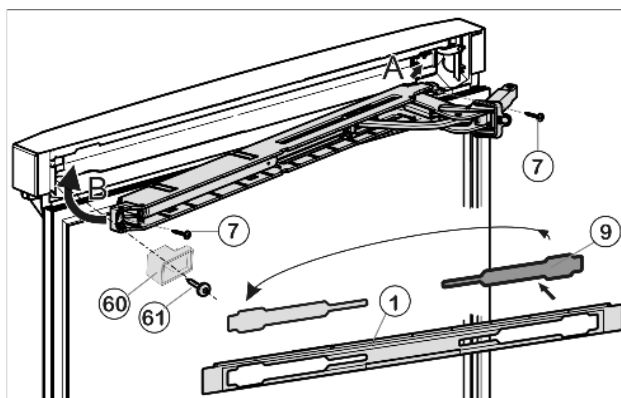

Fig. 33
- ▶ Loosen cover *Fig. 33 (9)* from the panel *Fig. 33 (1)* and insert on the other side.
- ▶ With the hinge of the upper soft stop unit facing the door hinge side, engage the soft stop unit (A) and swivel inwards (B).
- ▶ Tighten soft stop unit (2 x Torx 15) *Fig. 33 (7)*.
- ▶ Screw on spacer *Fig. 33 (60)*.